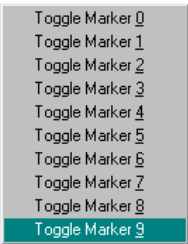

Figure 4-4. Marker Submenu
2. Click on the **Go To Marker 0–9** option to open the **Marker** submenu (**Figure 4-4**), and choose the marker number to move to.